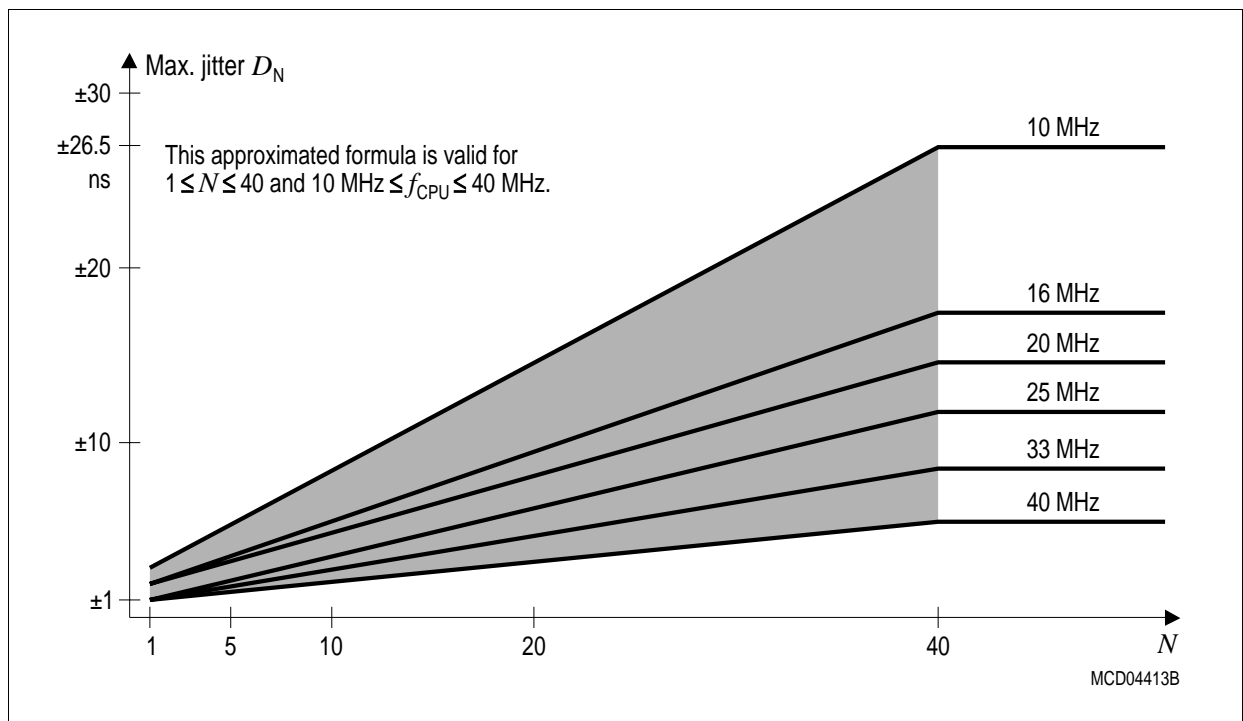

Figure 12 **Approximated Maximum Accumulated PLL Jitter**
The timings listed in the AC Characteristics that refer to TCLs therefore must be calculated using the minimum TCL that is possible under the respective circumstances. The actual minimum value for TCL depends on the jitter of the PLL. As the PLL is constantly adjusting its output frequency so it corresponds to the applied input frequency (crystal or oscillator) the relative deviation for periods of more than one TCL is lower than for one single TCL (see formula and **Figure 12**).
*Note: For all periods longer than 40 TCL the $N=40$ value can be used (see **Figure 12**).*